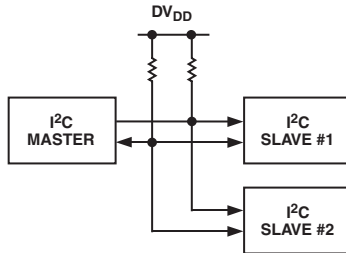

Figure 35. Typical I2C System
- An I2C master can communicate with multiple slave devices. Because each slave device has a unique 7-bit address, single master/slave relationships can exist at all times even in a multislave environment (Figure 35).